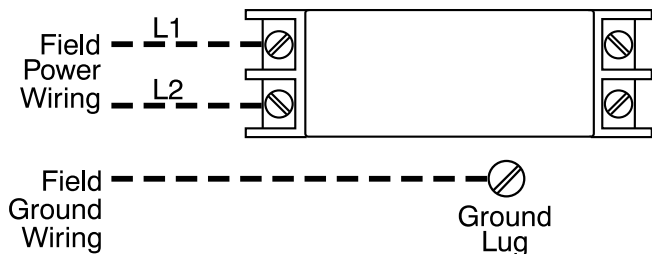
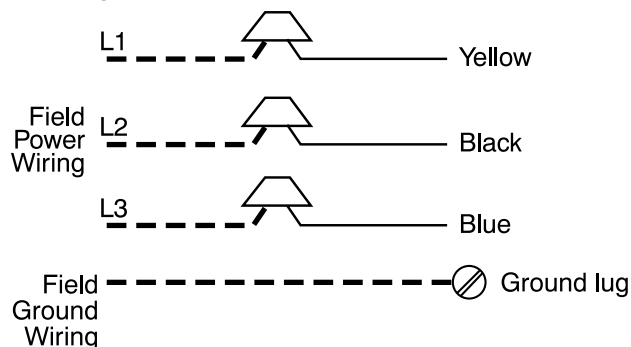
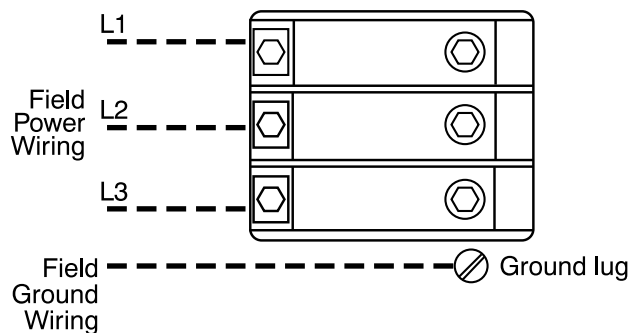

Fig. 12 – 3, 5, 8, 9 10 kW Non-fused Heaters (9 kW is field convertible to 3-phase. See \(Power Connections on p7\)).
Fig. 16 – 15 kW 3-Phase Heater
Fig. 17 – 18 kW 3-Phase Heater
1. Unprotected heaters: See Fig. 12, Fig. 16, and Fig. 17.